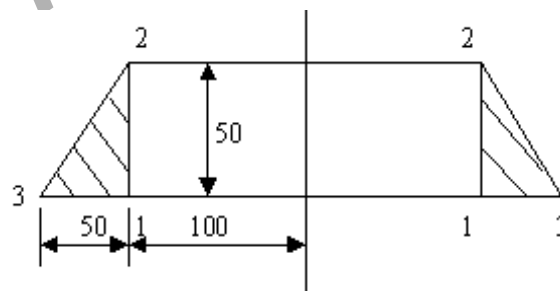

Figure 2
2. An axisymmetric ring element is shown in figure 2. Derive the matrices, [B] and [D]. Take $E = 2 \times 10^5 \text{ N/mm}^2$ and $\mu = 0.33$. [16]